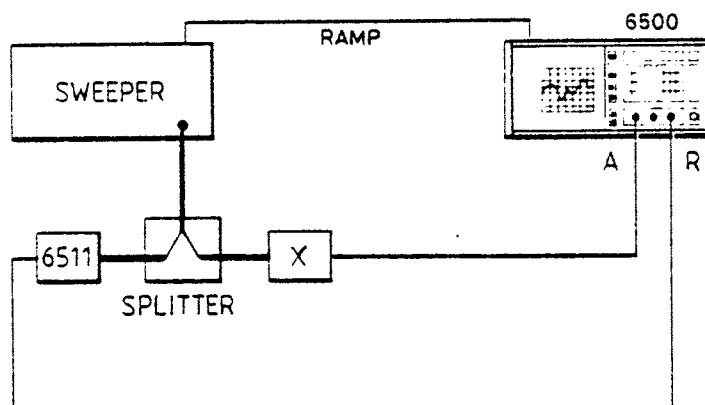

Fig. A-1 Arrangement for characterization of non-MI detectors
- (1) With RF power switched off, connect the equipment as shown in Fig. A-1.
- (2) Select [SHIFT][DET] on the 6500. The prompt Enter detectors (ABR) appears. Press [7][1][1][ENTER] to assign: